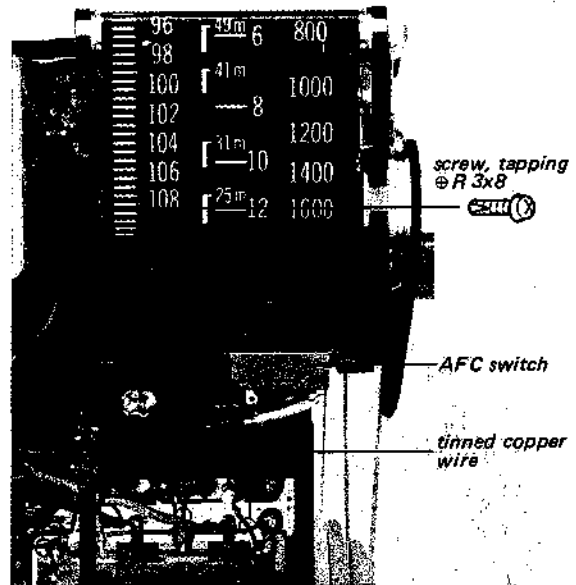

Fig. 1-4.
3. Unsolder the four wires shown in Fig. 1-4.
4. Remove the AFC switch and the screw shown in Fig. 1-4.